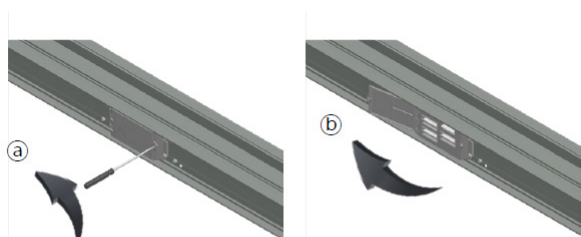

Figure 19. Busway Pre-installation
(Figure 19, a, b)
5. Inspect the plug-in mold for any foreign material or moisture penetration. (Figure 19)